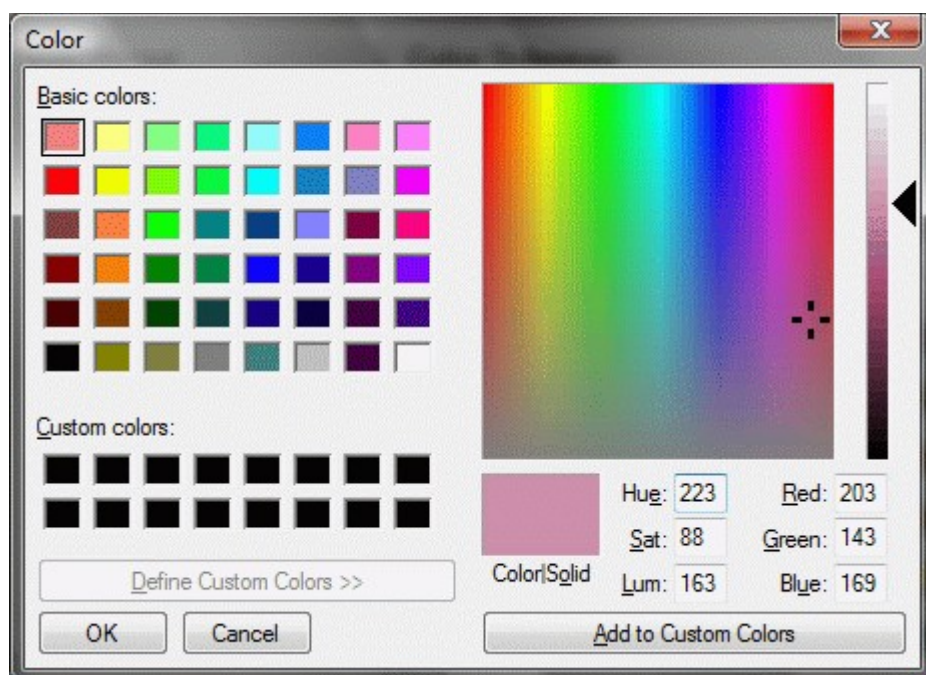

Figure 7. Color dialog window to add custom colour
- Define your custom color by clicking on the **Define Custom Colors** button. The additional part of the dialog window appears (see Figure 7):